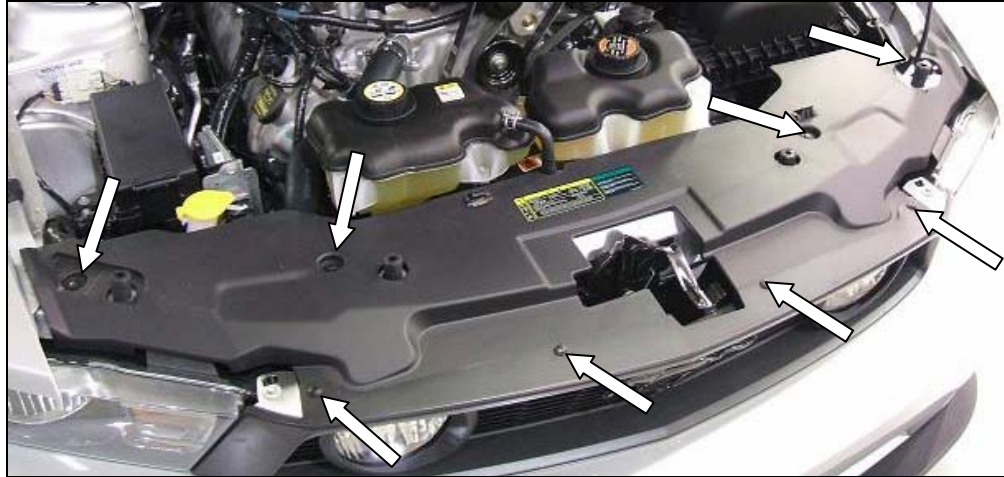

Figure 4
6. Open the vehicle hood and remove eight (8) push pin retainers and the black plastic panel covering the radiator. Refer to Figure 4. Set all parts aside for reinstallation.
23. Reinstall the upper radiator cover and eight (8) push pins removed in Step 6. Refer back to Figure 4. Insert the push pin body into the hole and then the push pin button.